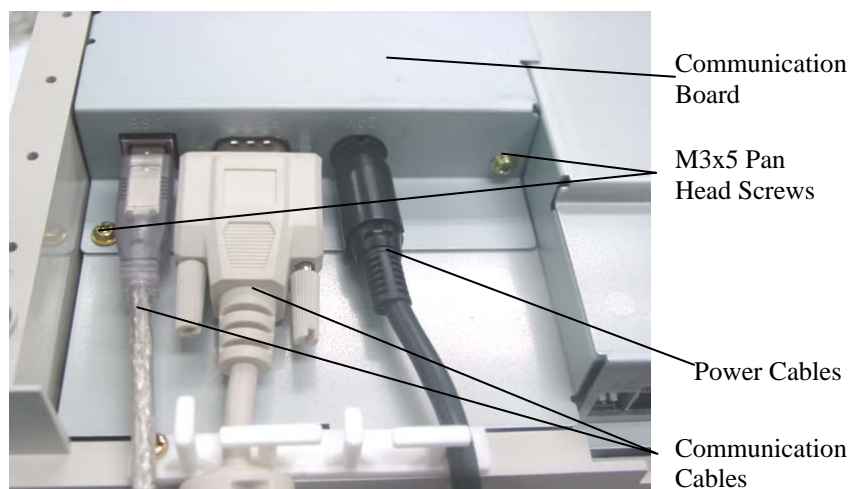

Figure 1 – Removal of Communication Cables
3. Disconnect the communication and power cables. (Refer to Figure 1)